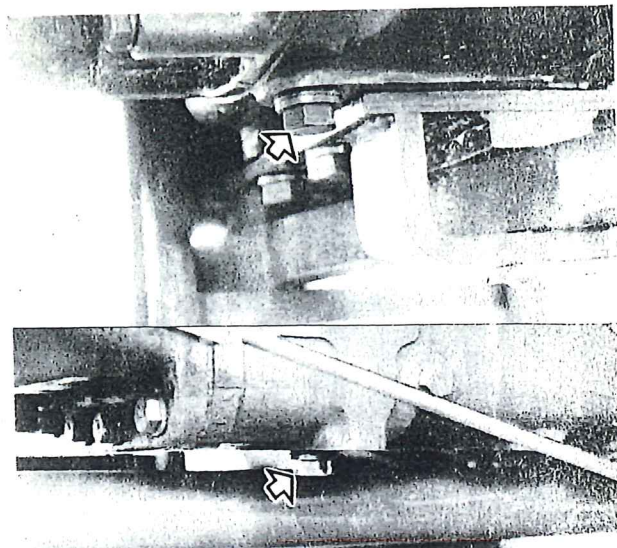

Figure 46 — Transmission and Rear Axle Oil Drain Plugs
1. With the oil at normal operating temperature, drain the oil by removing the transmission and rear axle drain plugs, Figure 46. Also refer to the next page for the oil of FOUR-WHEEL DRIVE. Reinstall the plugs after the oil has drained. Discard the oil.